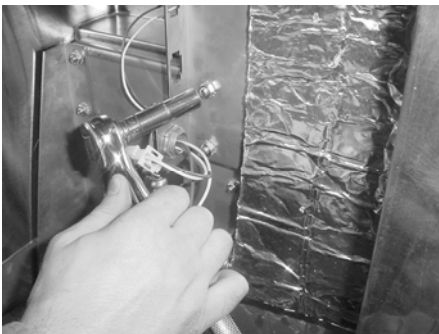

Figure 2-82
7. Using 7/16" socket, remove the 4 nuts securing the support plate. 2 nuts are behind the insulation. Figures 2-82 & 2-83.